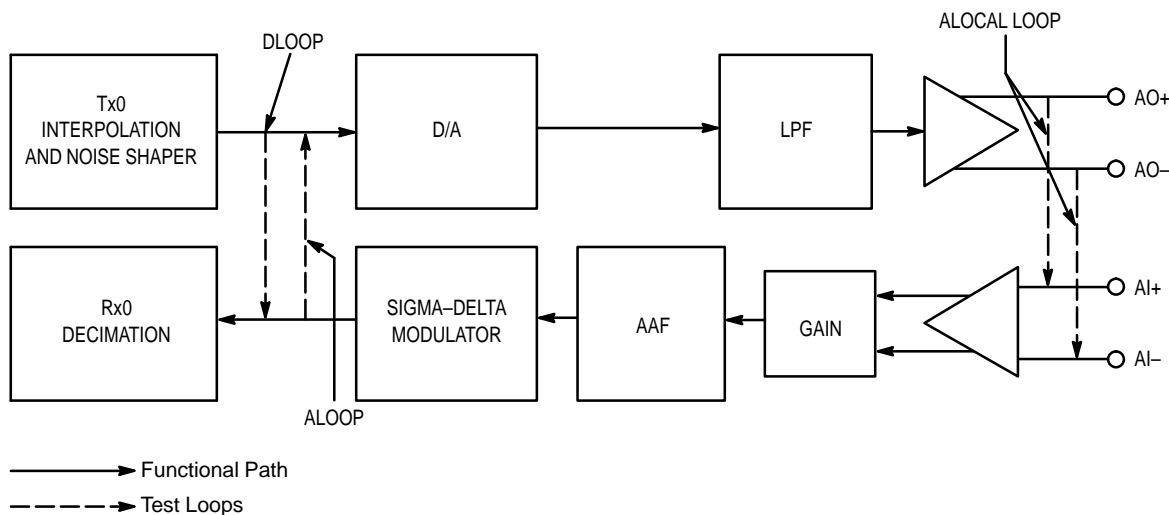

Figure 2. Digital and Analog Loopback Features
ALOOP (R/W, 0): This bit controls the remote loopback function at the analog/digital interface. Setting this bit to 1 will force the single bit modulated output from Rx in the codec to loopback into the single bit input of the D/A. See Figure 2.
DLOOP (R/W, 0): Setting this bit to 1 will force a digital loopback in the codec. This occurs at a point between the output of digital interpolator filter and the input of the digital decimator filter. See Figure 2.
ALOCAL LOOP (R/W, 0): As opposed to the ALOOP bit of this register, ALOCAL LOOP closes a local loopback at the analog interface. When this bit is set active (1), the analog output signal on pins AO0+ and AO0- is fed back into the input amplifier stage on pins AI0+ and AI0-. See Figure 2.